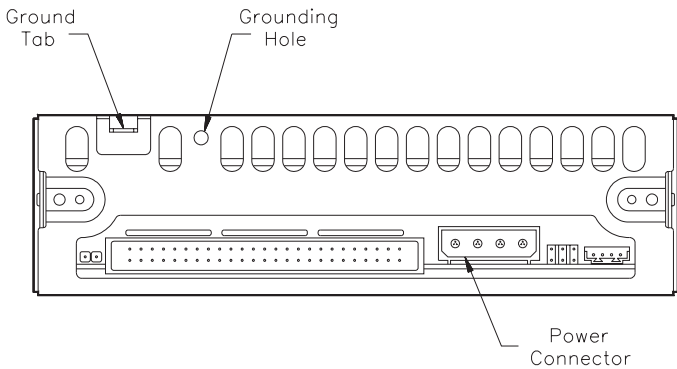

Figure 7 Location of ground tab, grounding hole, and power connector on the back of the CTS
6. If you needed additional chassis grounding, connect a 1/4-inch female spade connector to the ground tab at the rear of the tape drive. Or, connect an M3-0.5 6 mm self-tapping screw to the grounding hole. The ground tab and grounding hole are shown in Figure 7.